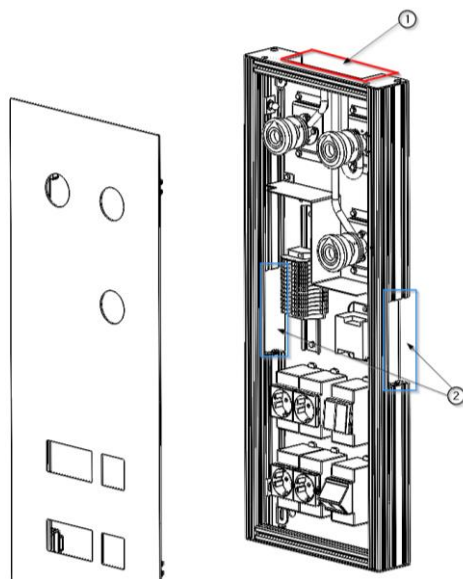

Fig. 2 Location of gas inlets and electrical inlets
The inlet for the medical gas supply ① is located on the upper side of the ANTEA chassis. The electrical connections ② are located on the side(s) of the equipment. See Figure 2.